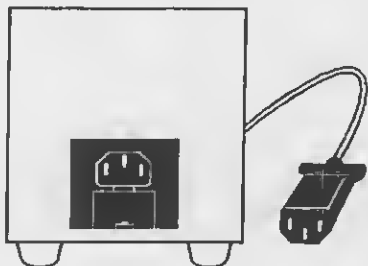

Figure 1-7. Transformer.
(3) *Transformer (fig 1-7).* The step-down transformer is required for operation of the APS on 230 volts.